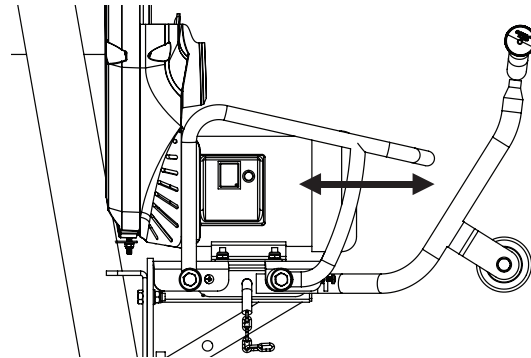

FIGURE 12
- c) Adjust the motor position forwards or backwards. **(Figure 12)**